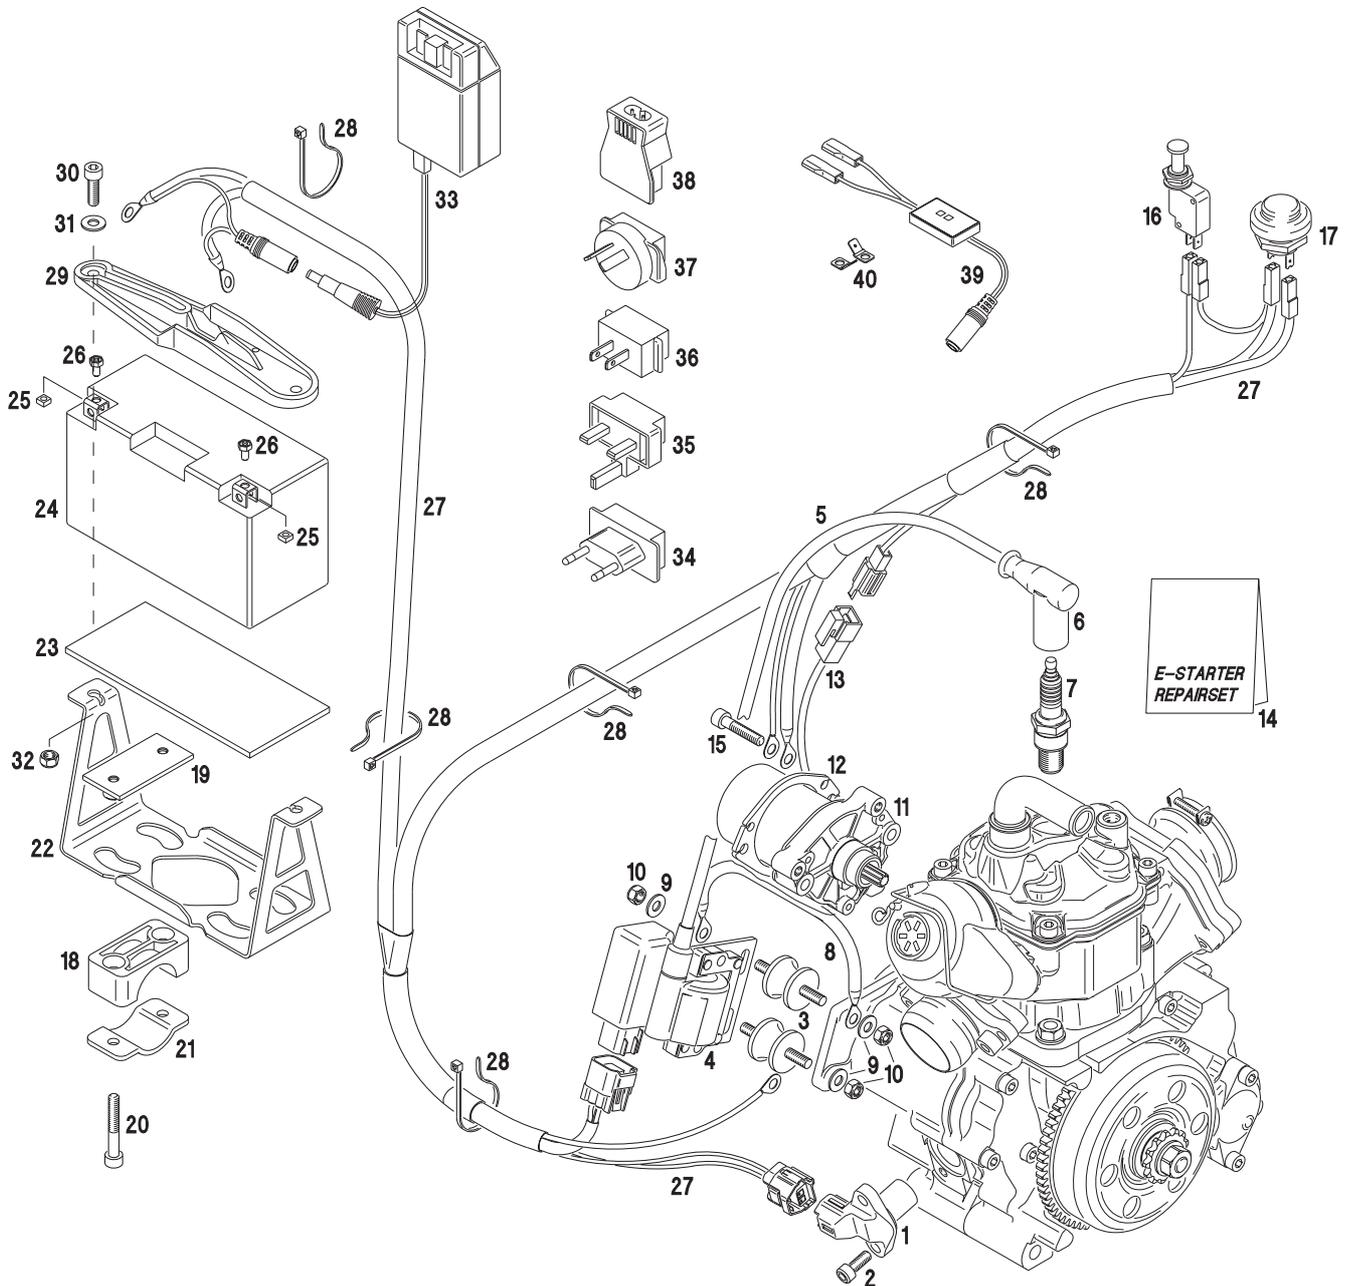

Fig. 5
For a well balanced weight distribution we recommend to locate the battery either on the left side behind the driver seat or in front of the fuel tank. For the proper attachment of the battery on the chassis ROTAX supplies a fixture kit included in the engine delivery volume (see fig. 5, pos. 20).
- ➔ Attach the battery fixture (20) with the two pipe clamps (16 – 19) on a suitable location on the chassis.
- ◆ **Note:** The clamp size (16) is planned for chassis tubes of 32 mm / 1 ¼ " dia. On tubes of a smaller dia. compensate with layers of emery paper.
- **Attention:** Do not overtighten the screw (18) of the pipe clamps (16). Risk of clamp fracture.
- ➔ Put the rubber plate (21) inside the battery fixture.
- ➔ Put the battery into the fixture (20). For connecting the battery refer to section 19.
→ Establish connections in accordance with figure 5.
- Connect the two cables of 6 mm² / S.W.G. 11 section on start button (17).
- Connect the two cables of 2 mm² / S.W.G. 16 section on ON/OFF circuit breaker (16).
- ➔ Attach the ignition coil as shown on illustration (fig. 5) on the reduction gear cover, utilizing the supplied attachment elements (2 x rubber mount, pos. 3,4; 4 x washer, pos. 9 and 4 x lock nut, pos. 10).
- ◆ **Note:** On the top attachment screw of the ignition coil connect also the additional grounding cable (pos. 8).
- ➔ Connect the wiring harness on the trigger coil (pos. 1).
- ➔ Connect the wiring harness on the ignition coil (pos. 4).
- ➔ Connect the wiring harness on the electric starter (pos. 11).